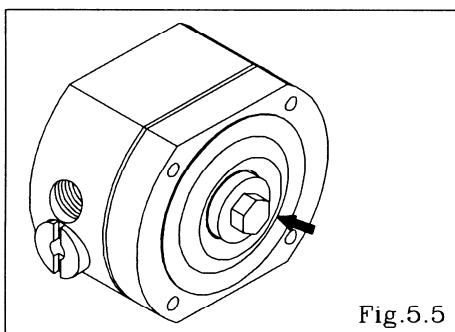

Fig.5.5
- Remove the center disk using the cap and disk remover (special tool: Part No. 771132). (NDP-5) [Fig.5.5]
- Remove the center disk from one side. (NDP-15) [Fig.5.5]